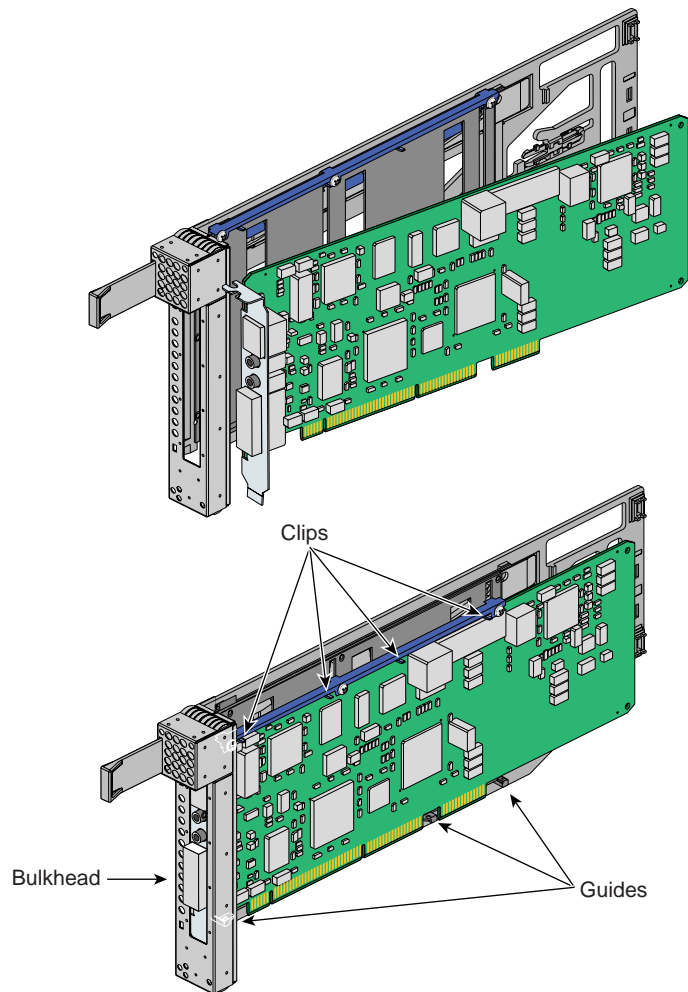

Figure 6-18 Mounting Card in Carrier
- c. Mount the card in the carrier, (see Figure 6-18) and ensure the following occurs: